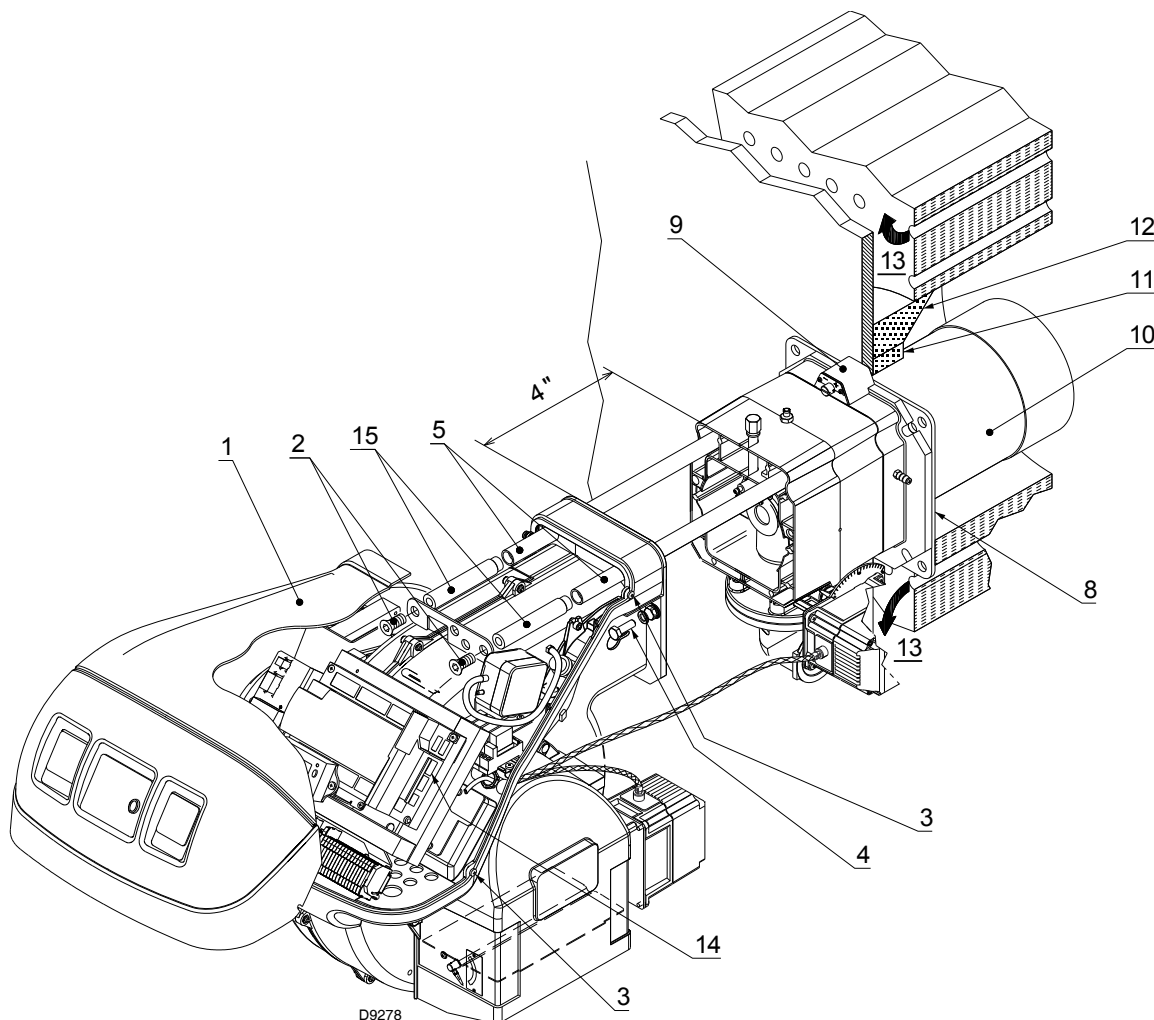

Fig. 11
- For boilers with front flue passes 13) (Fig. 11) or flame inversion chambers, a protection in refractory material 11) must be inserted between the boiler refractory 12) and the blast tube 10). This protection must not compromise the extraction of the blast tube.
- For boilers with a water-cooled frontal, a refractory lining is not necessary 11)-12) (Fig. 11) unless expressly requested by the boiler manufacturer.
Secure the burner to the boiler, fixing the flange 9) (Fig. 11) to the boiler plate and interposing the insulating gasket 8).
- loosen the 4 screws 3) (Fig. 11) and remove the hood 1);
- reassemble the burner on the guides 3) at about 4" from the pipe coupling 4) - burner in the position shown in Fig. 11;